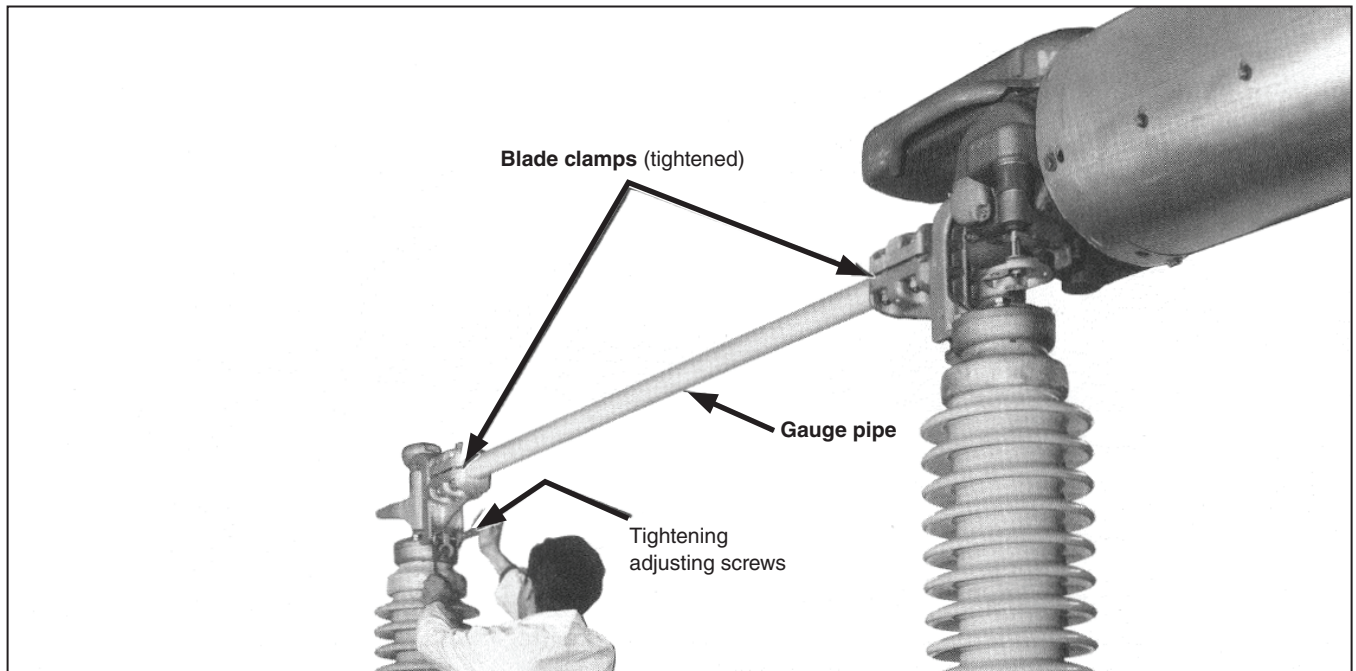

Figure 14. Blade-hinge alignment (1600 ampere rating shown.)
STEP 15. Remove the top sections of the blade clamps on both blade-hinge assemblies and lay the gauge pipe across the hinge assemblies as shown in Figure 14.
Then, tighten the adjusting screws at both blade adjustment discs. See Figure 14.